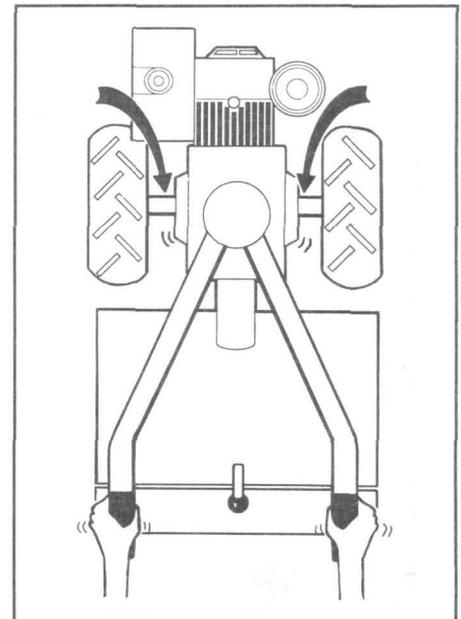

Figure 3-1: Testing for play in wheel shaft.
- Grasp the tiller's handlebars and tilt the tiller forward so its weight is resting entirely on the wheels. Then move the handlebars from side-to-side. See Figure 3-1.